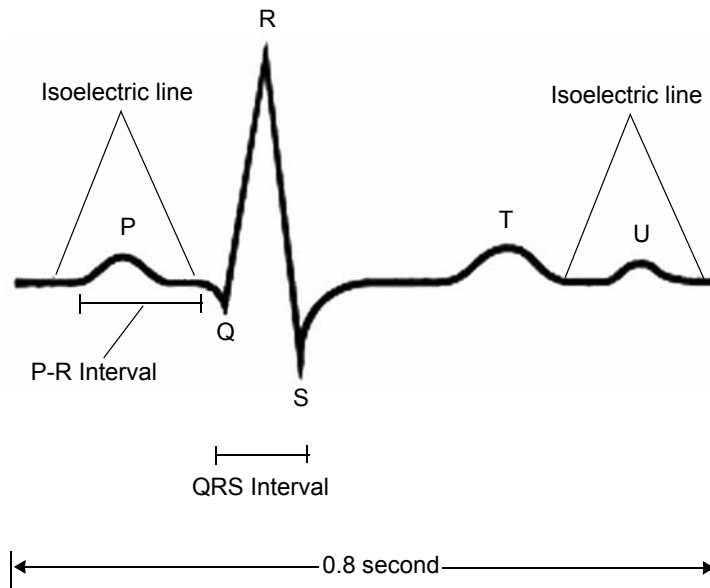

Figure 5-4. Segment of a typical ECG signal
- **P-R time interval**—defined as the interval (or period) that extends from the onset of atrial depolarization (beginning of the P wave) until the onset of ventricular depolarization (beginning of the QRS interval). See Figure 5-4 for an illustration.
The time between heartbeats can be determined by measuring the distance between the maxima (point R in Figure 5-4) of two adjacent QRS intervals, you can find the time between two heart beats. If you divide this period into 60, you can calculate the pulse frequency; thus: